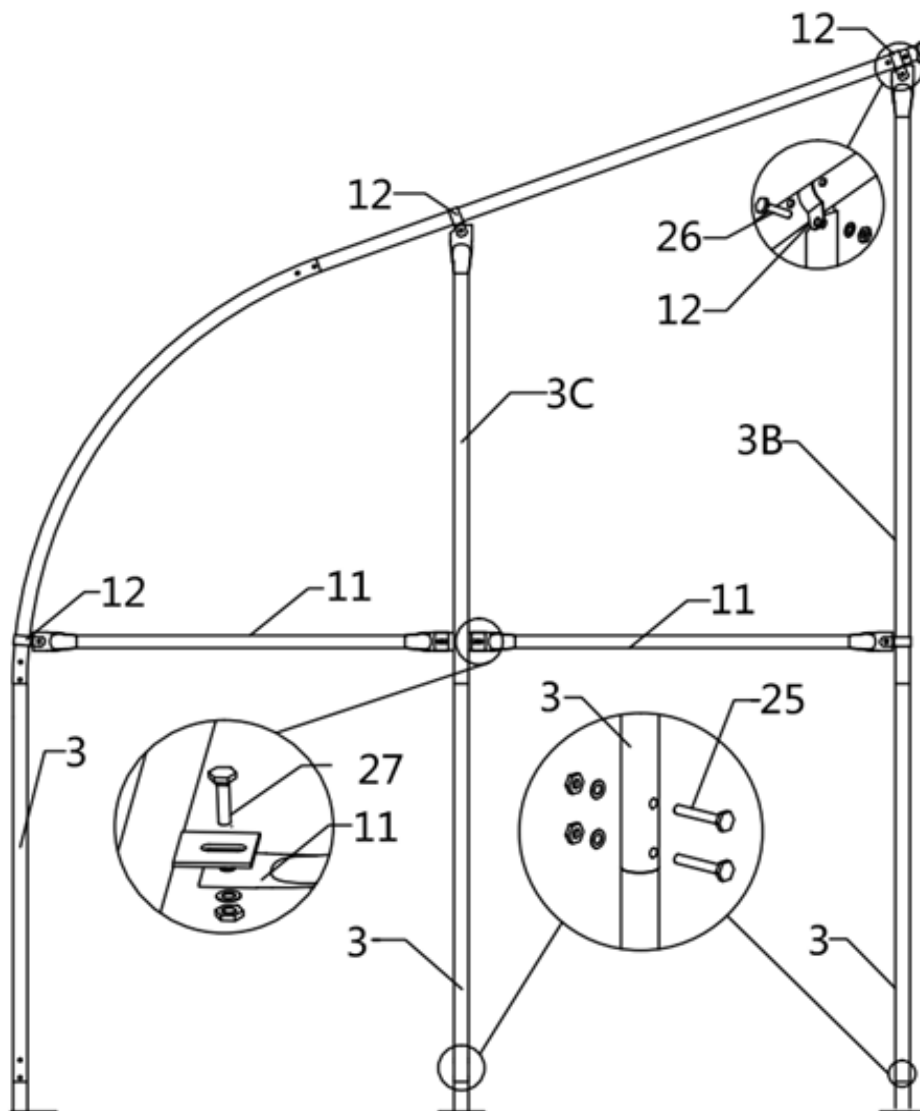

Figure 6
Step 5 : Installation of rear trusses riser (refer to figure 6).
- (2) Sidewall tube (#3)